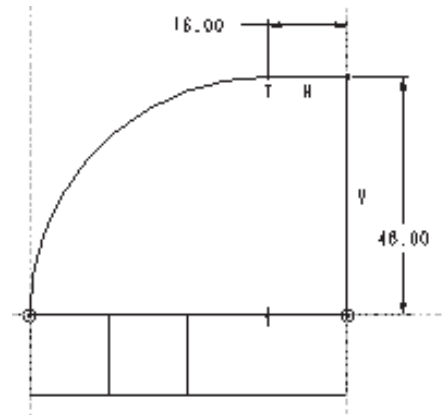

Figure 4-67 Sketch with dimensions and constraints for the second feature
2. Draw the sketch using various sketcher tools as shown in Figure 4-67.
3. Apply the constraints and modify the weak dimensions to the dimensions shown in Figure 4-67.